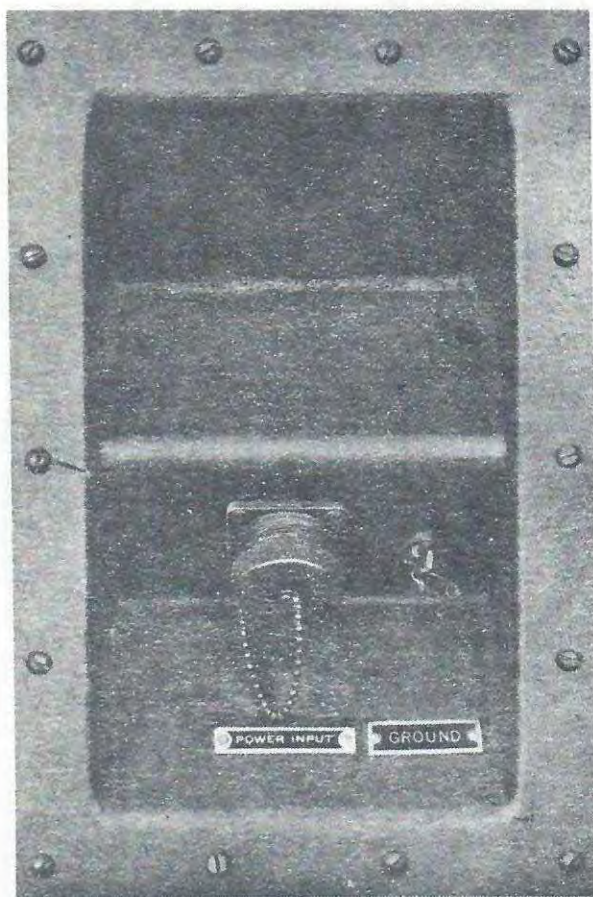

Figure 2-2. AC Power Entry, Unit 5
access door (figure 1-1, item 4). Remove the 8-pound sledge hammer which is stowed inside the shelter along the right wheel well. Using the 8-pound sledge hammer, drive the 4-foot ground rod from 3 to 3-1/2 feet into the ground. If the immediate area around the ground rod is excessively dry, wet the surrounding ground with water to provide positive grounding. The ground rod is connected to the shelter by a cable. Remove the connecting cable from the main storage cabinet. The ground cable is 9-feet long with a lug connector on one end and the insulation removed 3 inches from the other end. Remove the ground rod clamp from the shelter-mounted antenna stowage bag. Place the clamp over the protruding end of the ground rod and place the bare end of the ground connecting cable between the rod and the clamp. Tighten the bolt on the clamp. It may be necessary to use a 1/2-inch wrench. The lug end of the connecting cable is connected to a terminal marked GROUND on the ac power entry panel on the shelter. The ac power entry panel is illustrated in figure 2-2.